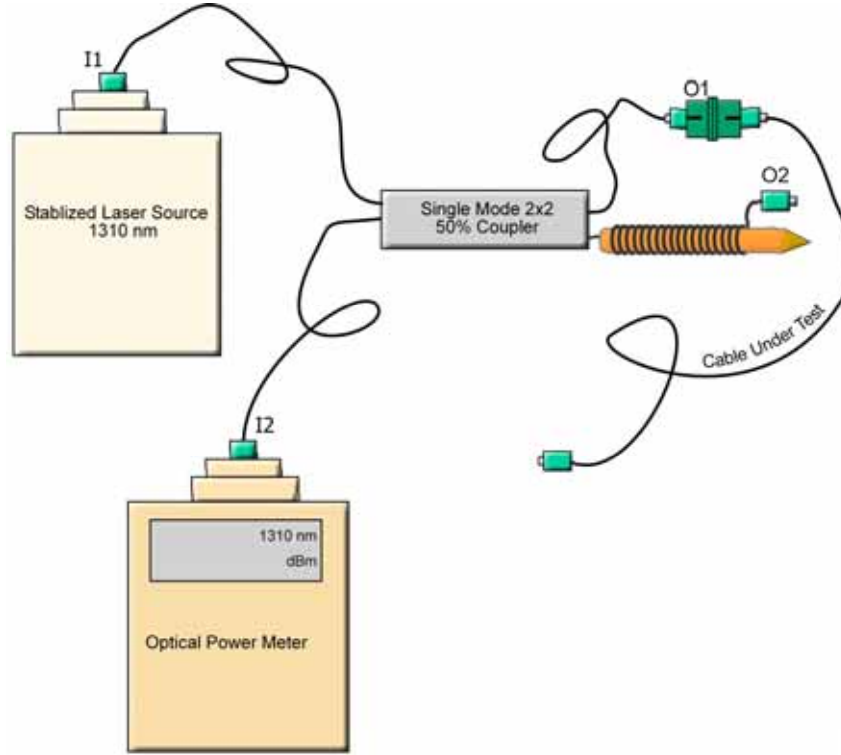

Figure 7-5. Test Procedure Connections
- Connect the laser to port **I1** of the coupler as shown in Figure 7-5.
- Connect the Power Meter to port I2 of the coupler as shown in Figure 7-5.